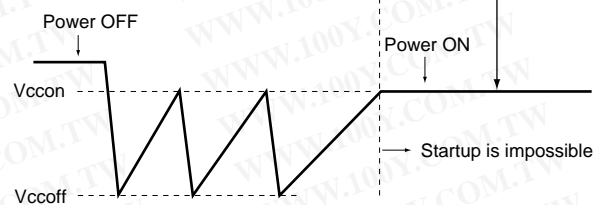

Fig. 22 Image of Vcc waveform when re-startup is impossible
After power-off, once Vcc falls down below OFF threshold voltage, Vcc rises up again and re-startup occurs while the capacitor C1 is discharged until approximately zero because Vcc voltage rises up by the current flowing RA. This operation is repeated several times. After the repeated operation, IC stops in the condition that Vcc voltage is equal to Vccon (=ON threshold) because capacitor C1 is discharged gradually and the decreased Vcc inclination is out of the condition required by equation (4). After that, re-startup by power-on can not be guaranteed even when equation (8) is satisfied. The image of that the startup is impossible is shown in Fig. 22. It is necessary to startup IC that supply current Icc (startup) to VCC is over 4mA in the condition of Tj < 100 °C during Vcc is kept at Vccon (=16V, balance state at Vccon after the repeated operation.